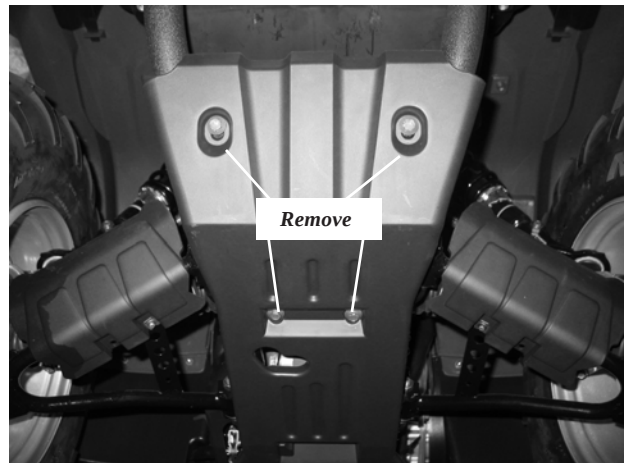

Figure 2: Remove bolts securing front of skid plate
2. Remove four bolts securing front of skid plate to ATV frame. See figure 2.